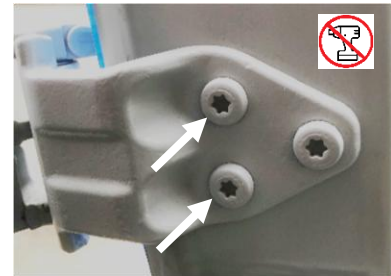

Figure 6: Top Hinge View
15. Unbolt the two bolts closer to the outside of the door (Figure 6).